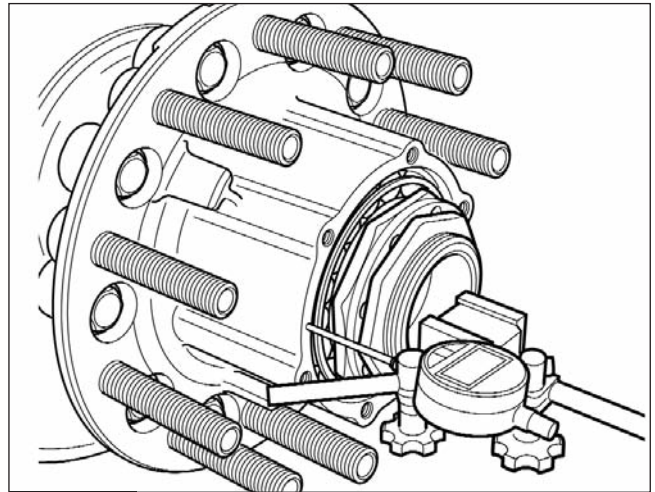

Fig. 4.18
- A. Attach the magnetic base of a dial indicator to the spindle. Touch the dial indicator stem to the hubcap gasket face. (Fig. 4.18).